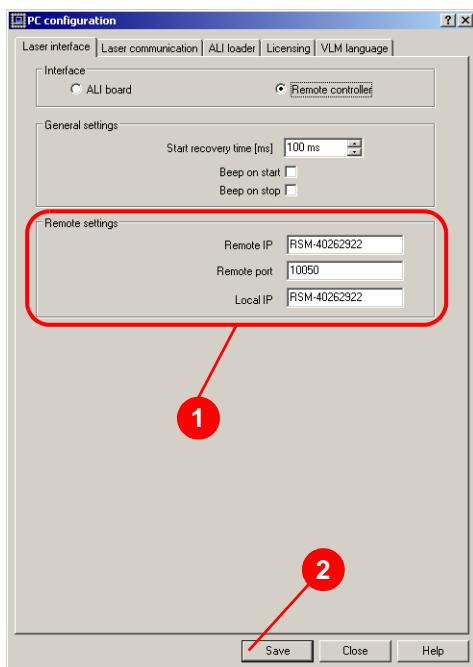

Figure 6.5 PC configuration
3. Under "Remote settings" (1) (Figure 6.5), check the values (name of the laser, e.g.: RSM-XXXXXXX) and adjust if necessary.